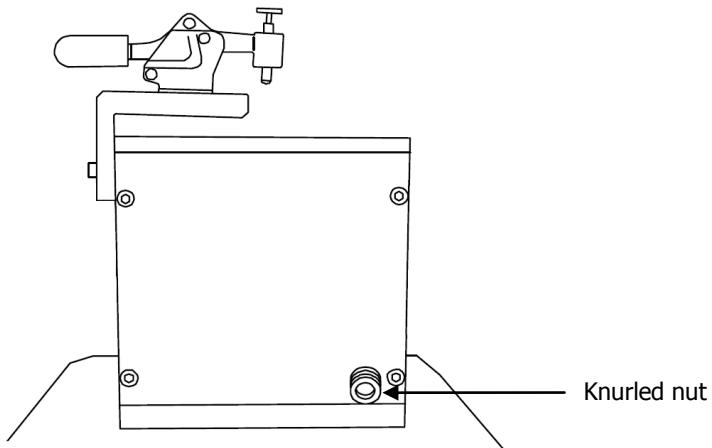

Figure 11 The purge connection on the HATR
1. Loosen the knurled nut on the HATR (Figure 11).